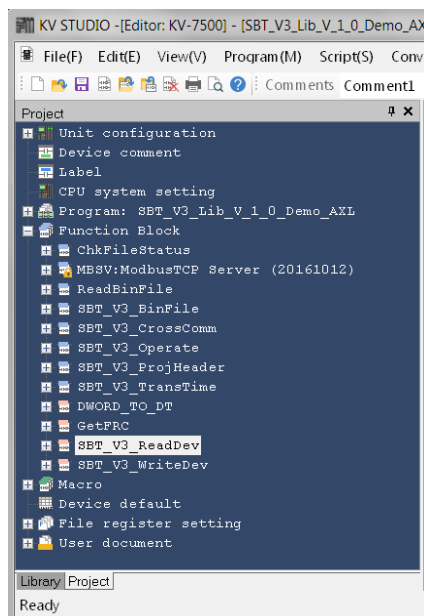

Figure 4-21 Integrating the library
- Open the example project “SBT_V3_Lib_V_1_0_Demo_AXL”. See Figure 4-21.